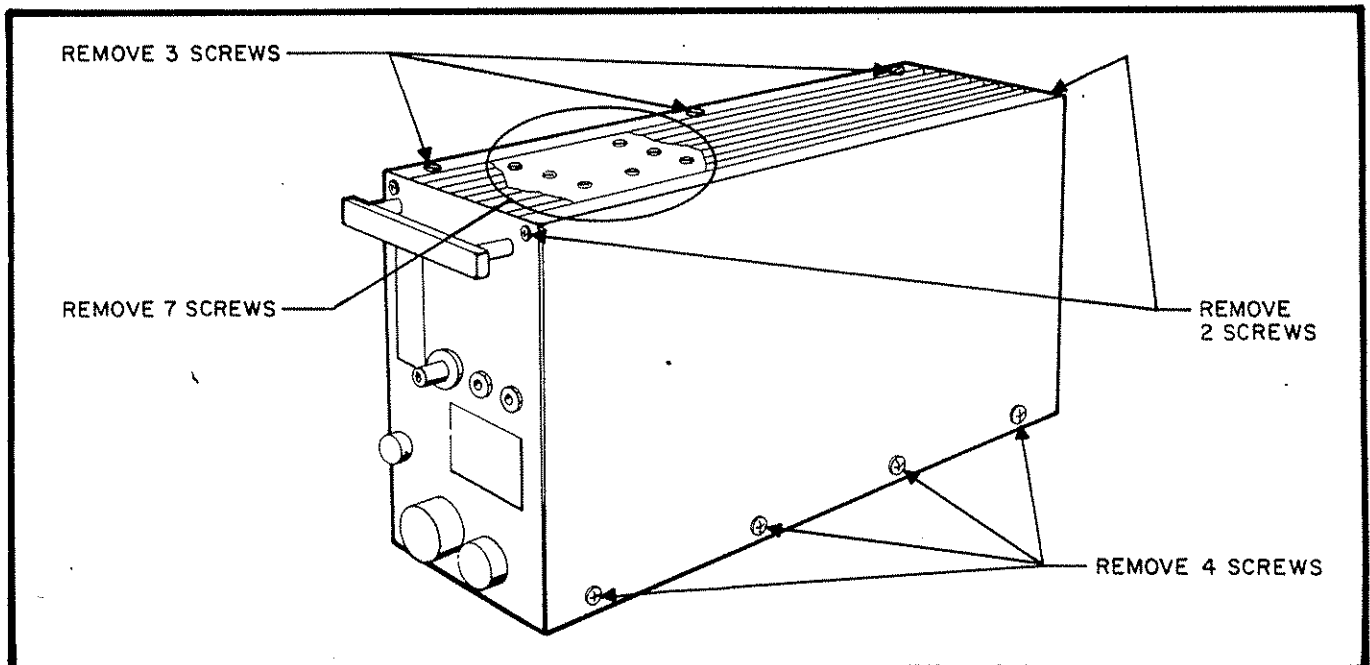

Figure 5.1 Cover and Heat Sink Removal
- a. Remove right cover and heat sink per Figure 5.1
- a. Remove the right cover and heat sink per Figure 5.1.